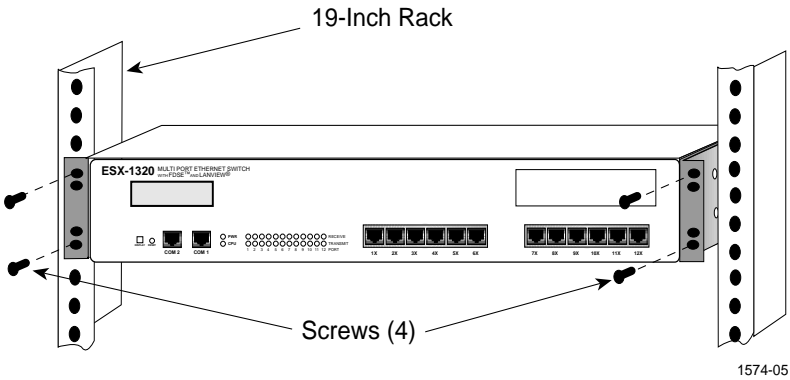

Figure 3-1 Unfastening/Removing the ESX from the Rack
- a. Refer to Figure 3-1. Remove the four screws securing the ESX brackets to the rack, and then pull the ESX out from the front of the rack.